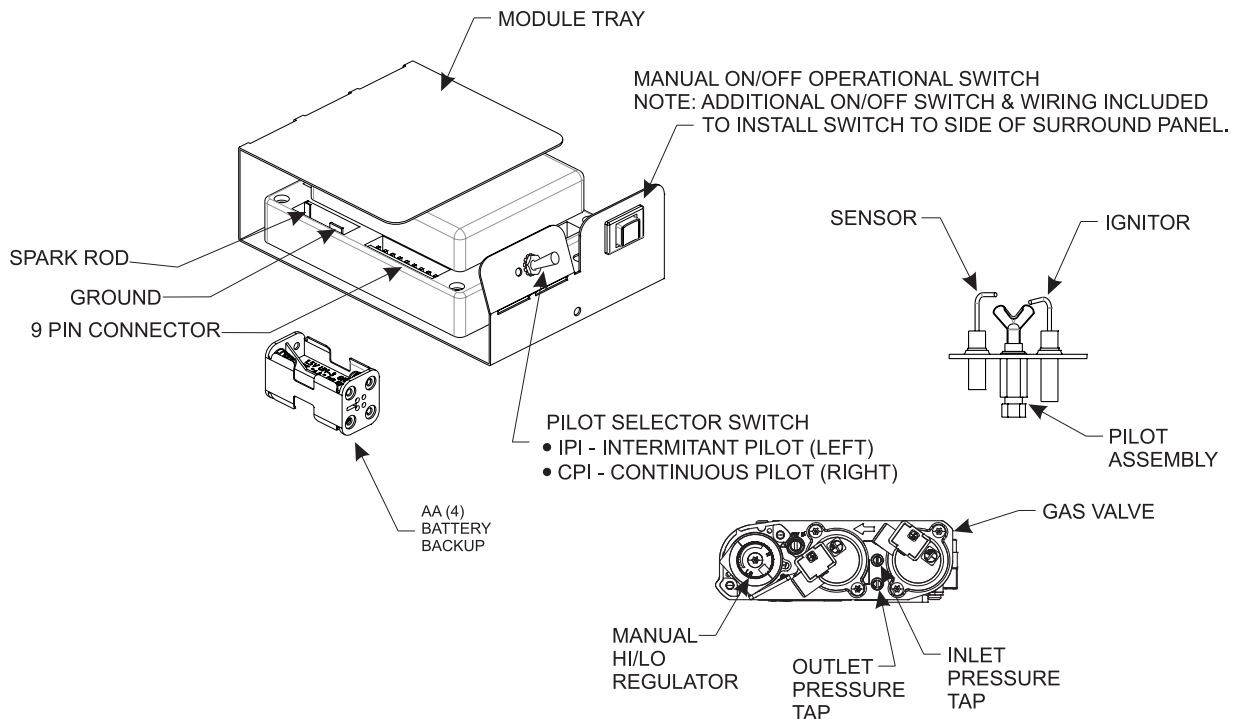

Figure 3
NOTICE: A small toggle switch is located on the front of the module tray that is used to switch from IPI (left) to the CPI (right). See Figure 3.
3. The gas valve has inlet and outlet pressure taps as shown in Figure 3. Refer to page 13 for gas pressure requirements.
NOTICE: The gas control has a manual HI/LO flame adjustment knob (regulator) that allows you to increase or decrease the height of the burner flame. See Figure 3. Rotate the HI/LO knob counterclockwise to "HI" to increase the flame height, and clockwise to "LO" to decrease the flame height.
To connect the remote receiver to the fireplace, first disconnect the ON/OFF switch wires from the white and green wire connectors and connect the wires from the remote receiver to the green and white wire connectors. See Figure 3.